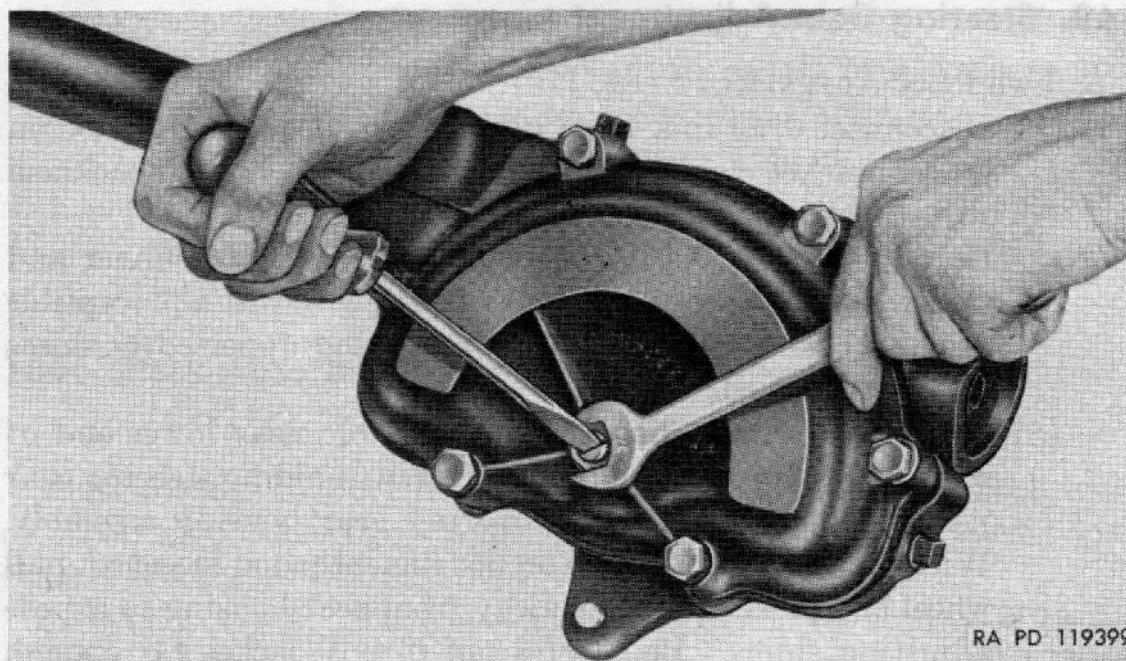

Figure 117. Steering-gear backlash adjustment.
- (1) Disconnect drag link from pitman arm (par. 170). Loosen jacket bracket clamp on instrument panel. Loosen backlash adjusting screw (fig. 117).
- (2) Grip steering wheel lightly with thumb and forefinger and turn wheel. Wheel should turn freely with just a perceptible drag. If no resistance is evident, housing-upper-cover shims must be removed.
- (3) To remove shims, disconnect horn cable near lower end of steering gear. Remove four cap screws holding steering gear jacket and upper cover to steering gear housing assembly. With jacket bracket clamp on instrument panel loosened, pull wheel and jacket assembly away from gear housing to expose adjusting shims. Be careful not to pull jacket far enough to break horn cable. Shims are of 0.002-, 0.003-, and 0.010-
(4) Tighten jacket-column clamp on instrument panel.
b. BACKLASH ADJUSTMENT (fig. 117).
(1) Disconnect drag link from pitman arm (par. 172).
(2) Turn steering wheel clockwise as far as possible; then rotate wheel counterclockwise as far as possible and count number of turns. Turn wheel one-half total number of turns. Steering gear is now in midposition.